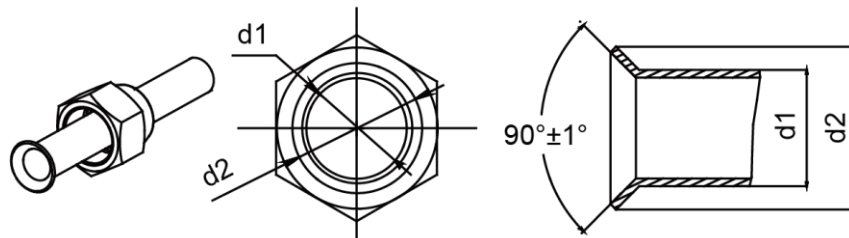

Figure 3-2-3
- (1) Cut the connection pipe with the pipe cutter and remove the burrs.
- (2) Hold the pipe downward to prevent cuttings from entering the pipe.
- (3) Remove the flare nuts at the stop valve of the outdoor unit and inside the accessory bag of the indoor unit, then insert them to the connection pipe, after that, flare the connection pipe with a flaring tool.
- (4) Check if the flare part is spread evenly and there are no cracks (see Figure 3-2-3).